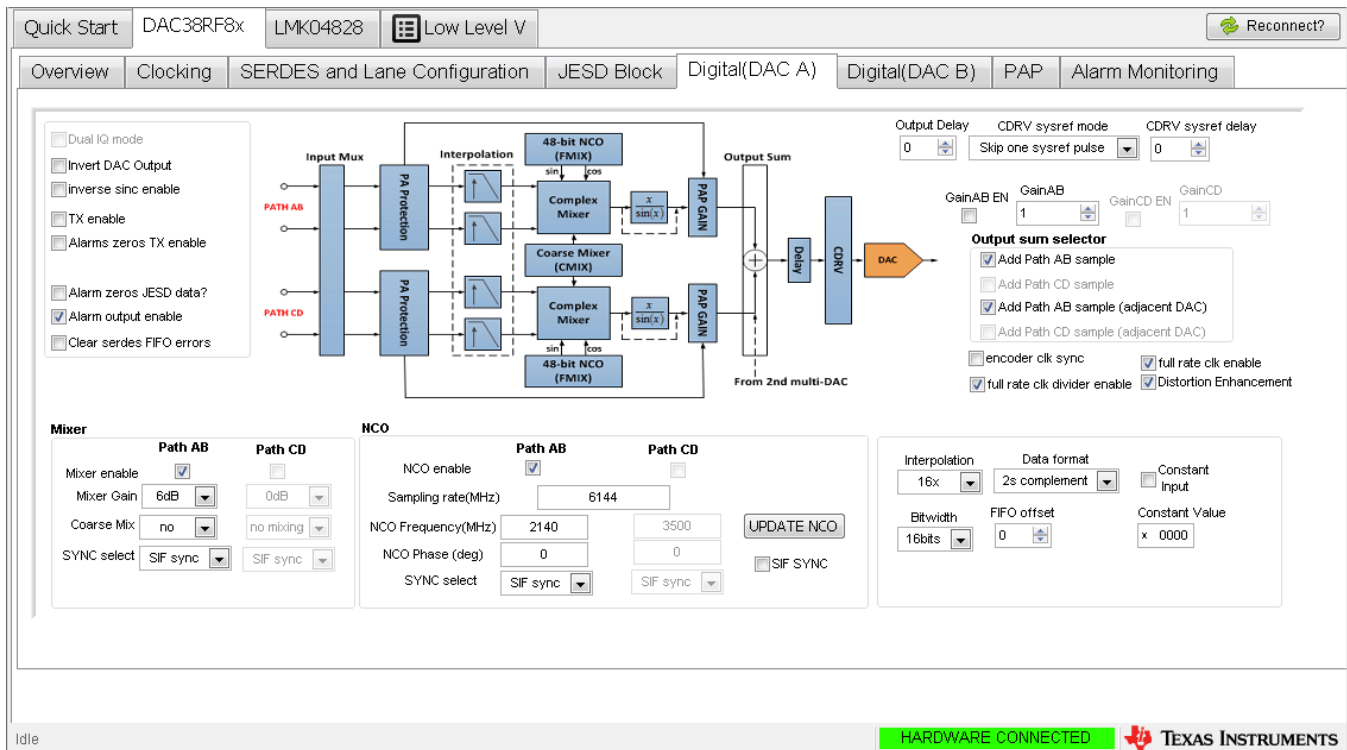

Figure 11. DAC A Digital Control Tab of the DAC38RF8x GUI
10. Navigate to the DAC38RF8x → Digital(DAC A) tab as shown in Figure 11.
| • Updated Figure 11 | 12 |